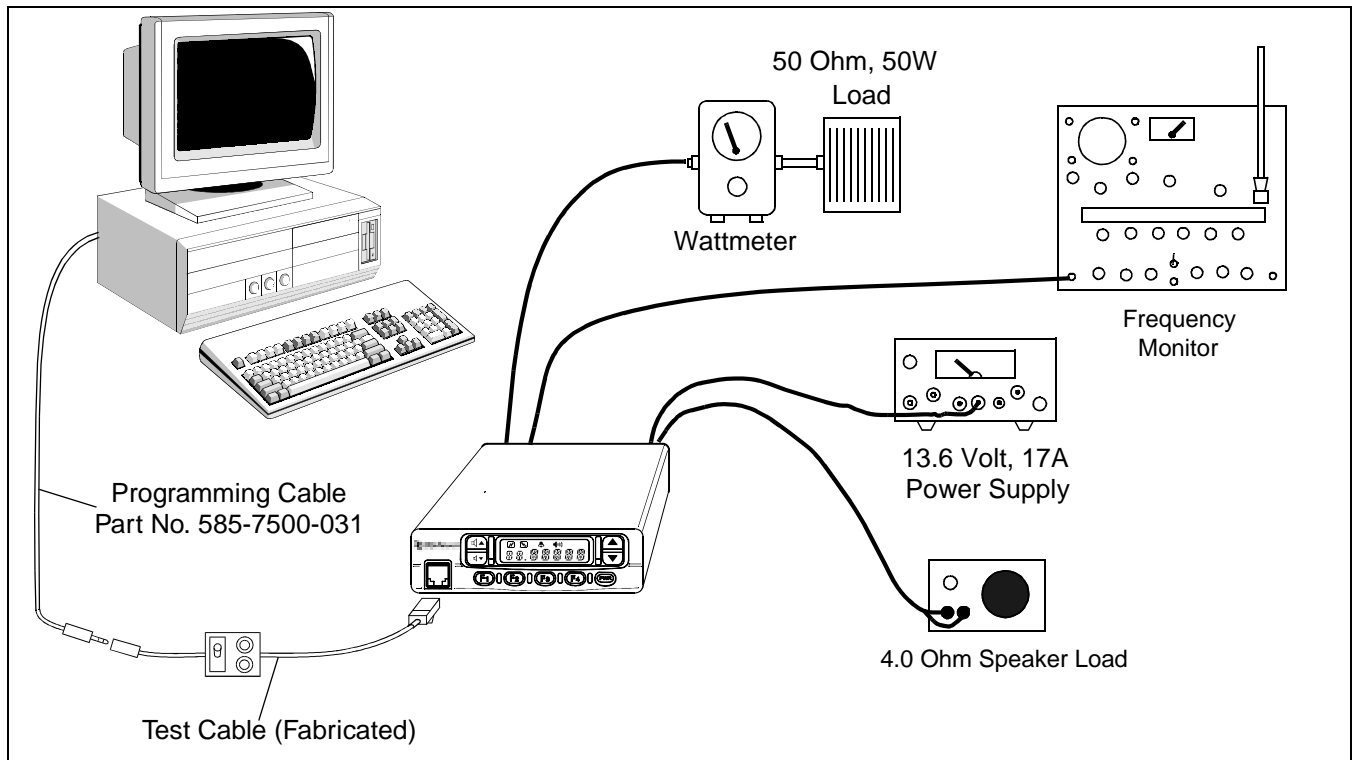

Figure 6-1 Test Setup
2. Turn transceiver power on and connect the computer to the transceiver microphone jack using the programming cable and fabricated test cable described in the preceding section (see Figure 6-1).